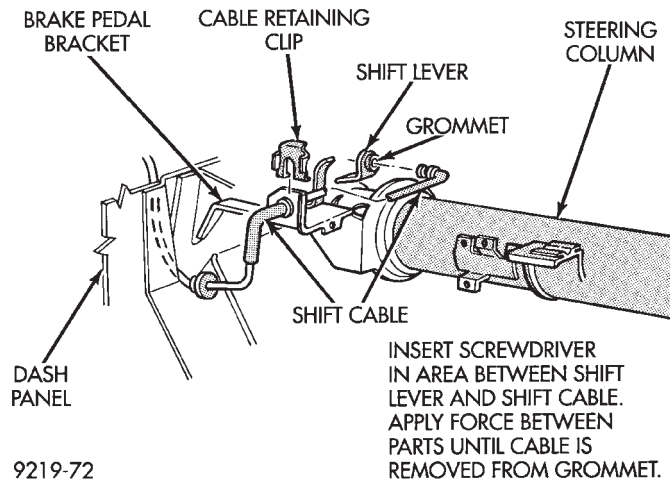

Fig. 2 Shift Cable Removal From Grommet
(1) Make sure the front wheels of the vehicle are in the **straight ahead** position.
(2) Disconnect the negative (ground) cable from the battery and isolate cable.
(3) For vehicles equipped with a column shift. Disconnect the transmission shift cable from the steering column by prying it out of the grommet in the shift lever (Fig. 2).